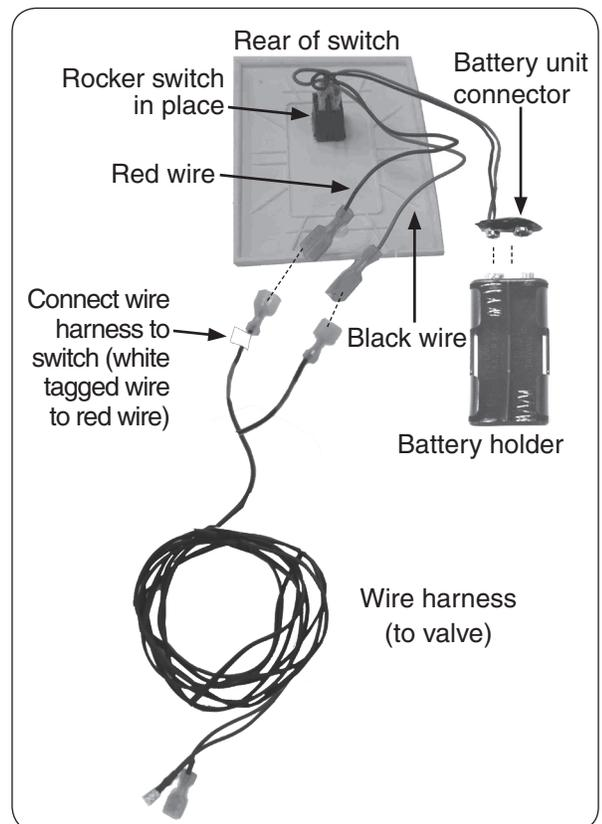

Fig. 1-1 Installation overview
6. Feed the rocker switch assembly wiring through the front of the wall switch cover, and snap the rocker switch into place (see Fig. 1-1).
7. Connect the two terminals on the rocker switch to the two terminals on the wire harness (see Fig. 1-1). Ensure a tight connection.
8. Connect the battery holder to the connector coming from the rocker switch assembly (see Fig. 1-1). Insert 4 AA batteries in the battery holder, ensuring the polarities are correct.